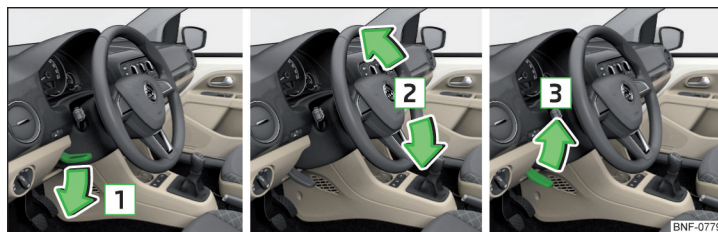

Fig. 3 Adjusting the steering wheel position
- Turn the safety lever beneath the steering wheel towards the arrow 1 » Fig. 3.